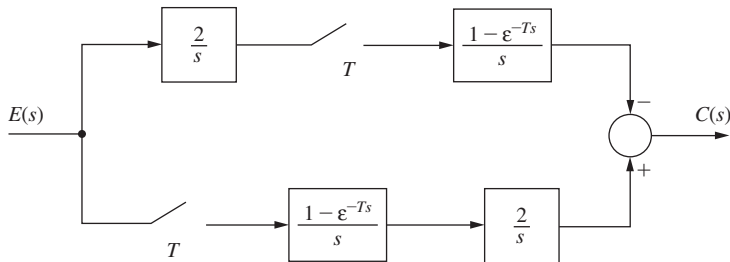

FIG. P4.3-6 System for Problem 4.3-6.
- 4.3-6.** (a) Find the output $c(kT)$ for the system of Fig. P4.3-6, for $e(t)$ equal to a unit-step function.
(c) Sketch the unit-step response $c(t)$ of the system of Fig. P4.3-6. This sketch can be made without mathematically solving for $C(s)$.